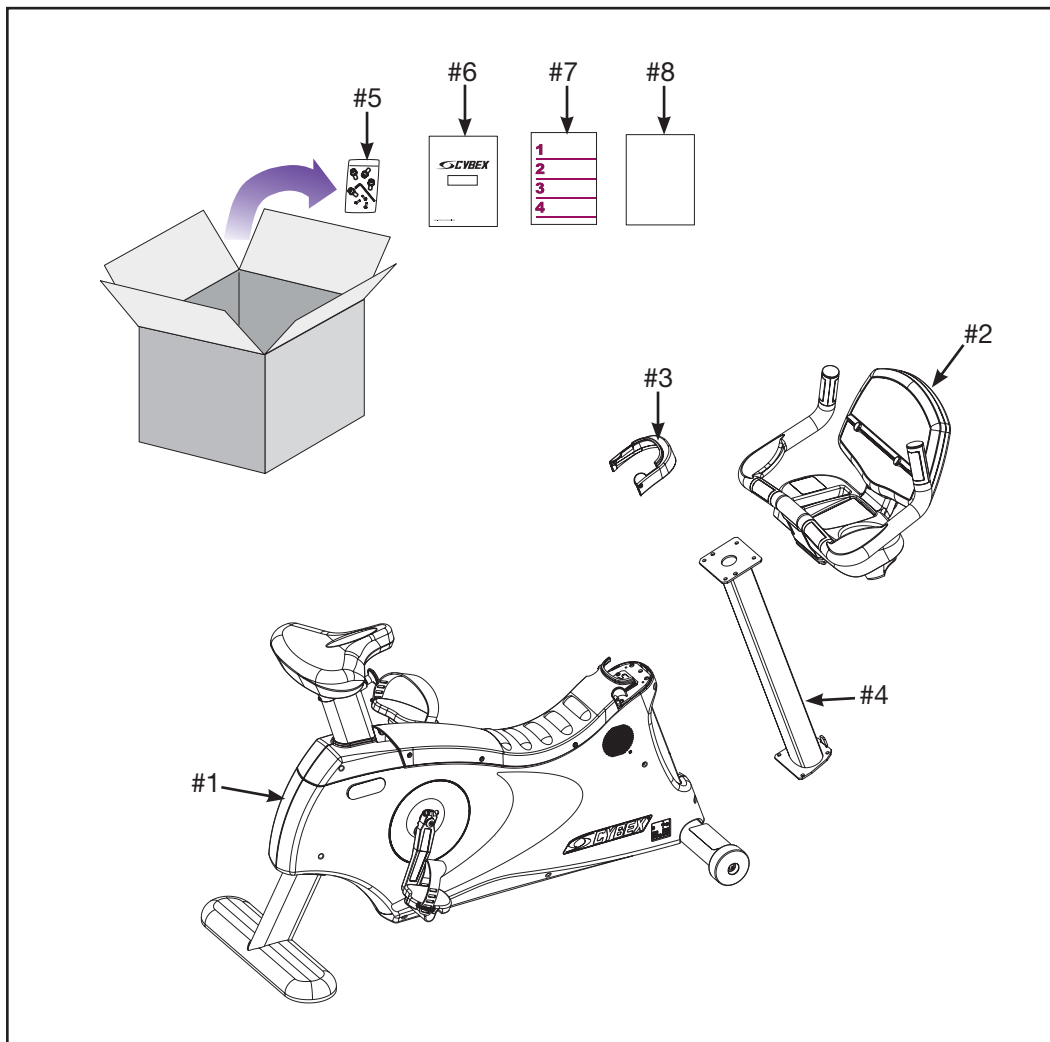

Figure 1
C. Check to be sure that the following items are present. Check off (✓) each item as you find it. See Figure 1. If any of the parts are missing contact Cybex Customer Service.